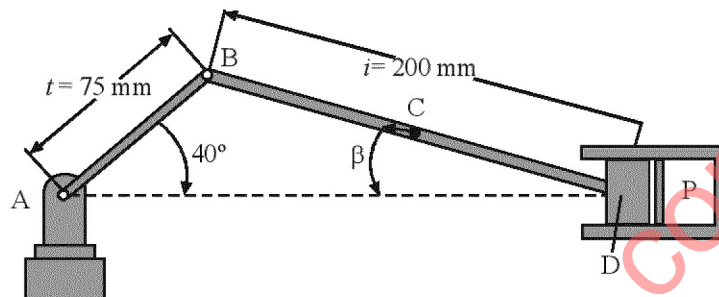

FIG.1
12. In the engine system shown in Fig.1, the crank AB has a constant clockwise angular velocity of 2000 rpm. For the crank position indicated, determine